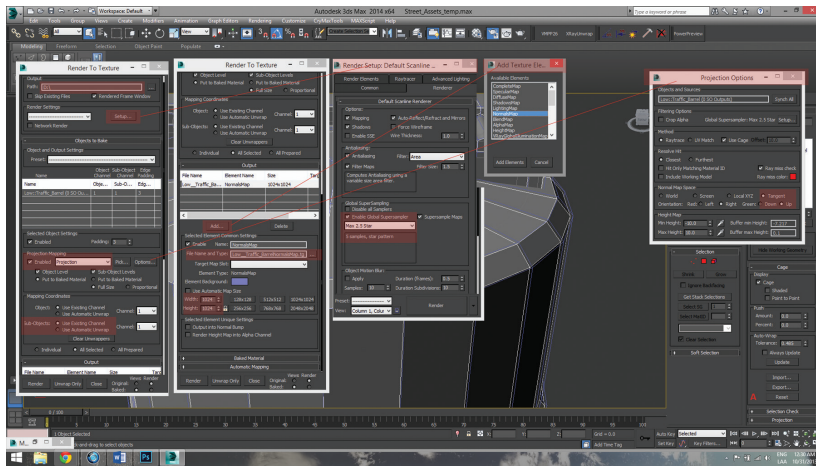

Figure 4: Setting up RenderToTexture
3. In Render Settings, enable Global Supersampler to Max 2.5 (see Figure 4).